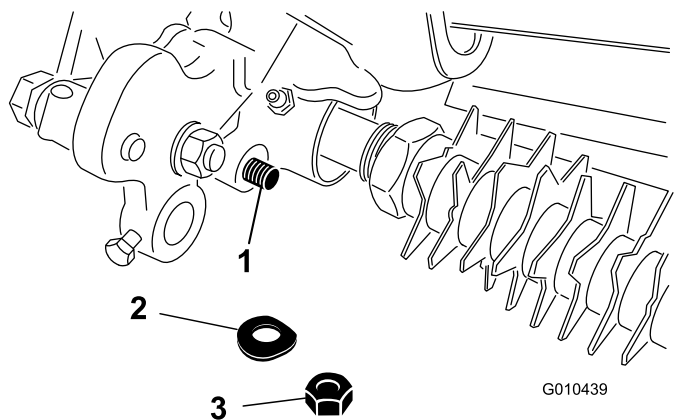

Figure 32
4. Remove the locknut and Belleville washer securing the height-of-cut arm assembly rod end to the groomer drive assembly (Figure 32).